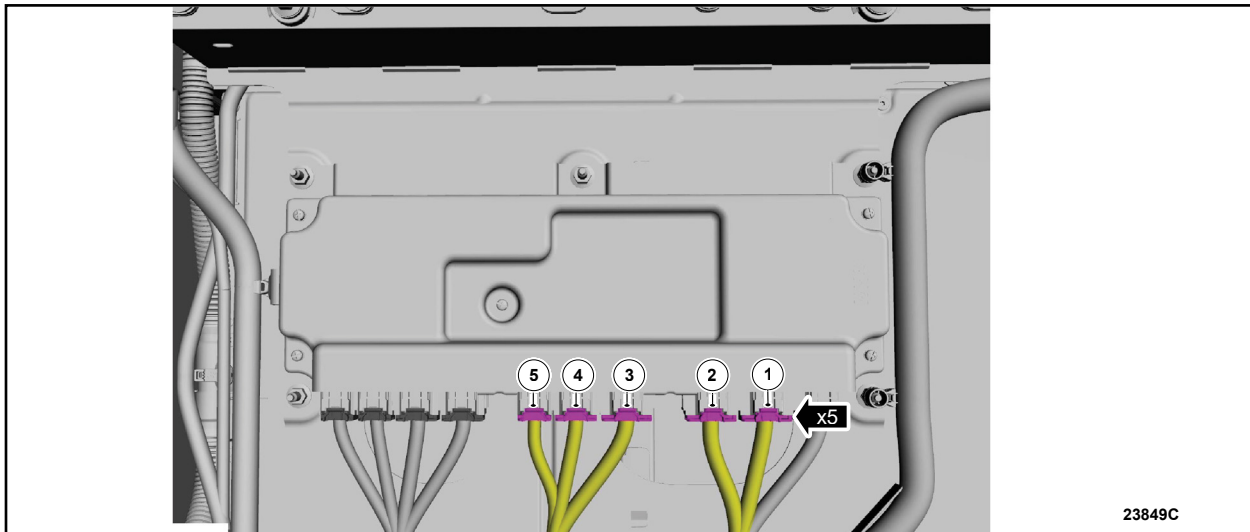

FIGURE 3
5. Disconnect the BECM electrical connectors in the sequence shown. See Figure 3.